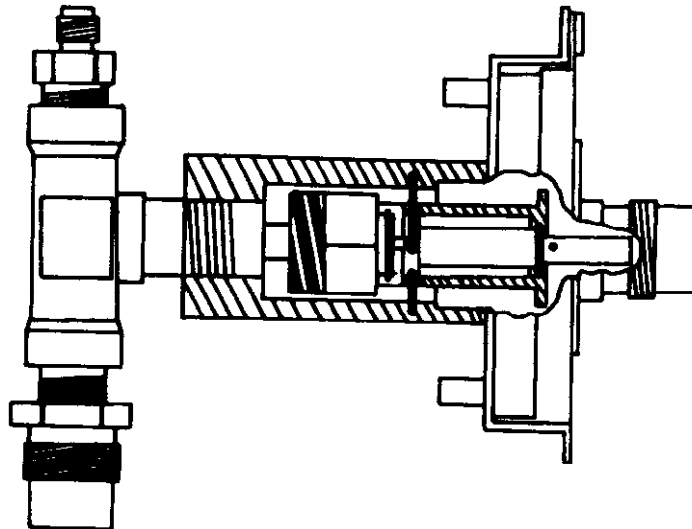

Figure 21
3. Gas-tight seal is formed between small o-ring on piston and front body. See Figure 21.